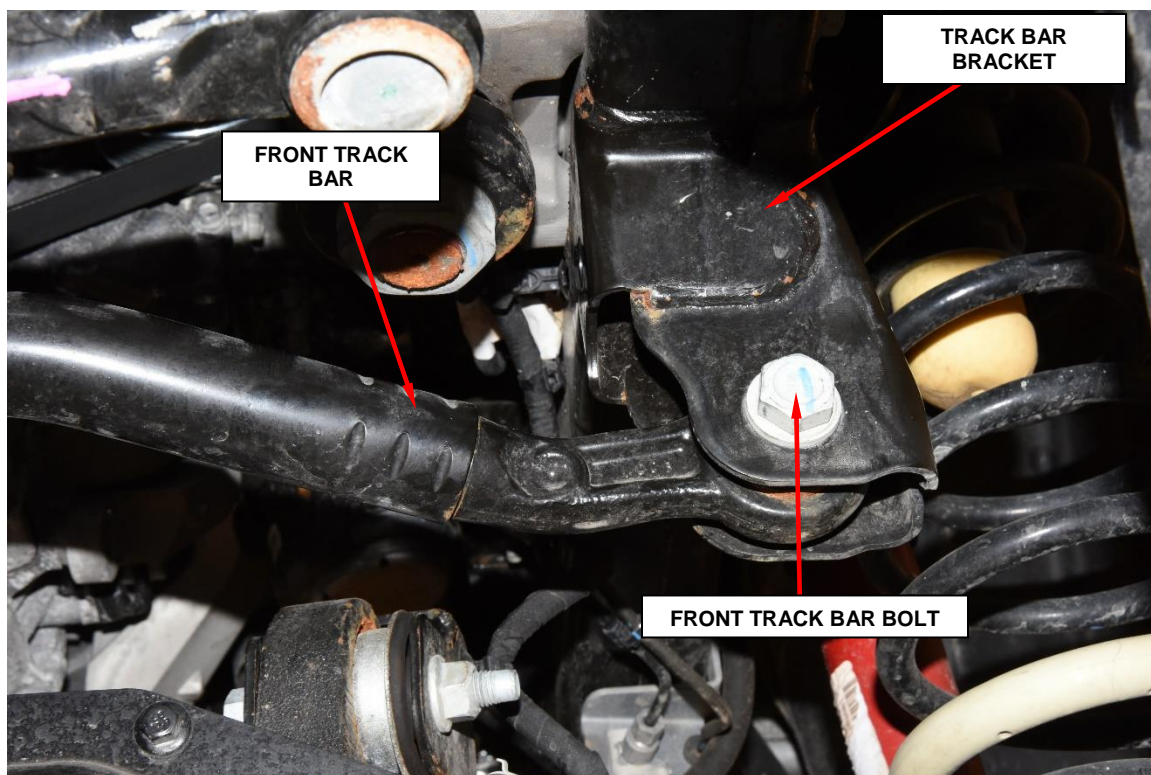

Figure 3 – Track Bar
4. Remove the track bar nut and bolt and **DISCARD**, disconnect the track bar from the frame bracket (Figure 3).
7. Position the track bar to the frame bracket then loosely install the **NEW** track bar bracket nut and bolt (Figure 3).
5. Remove the track bar nut and bolt and **DISCARD**, disconnect the track bar from the frame bracket (Figure 3).
13. Position the track bar to the frame bracket then loosely install the **NEW** track bar bracket nut and bolt (Figure 3).